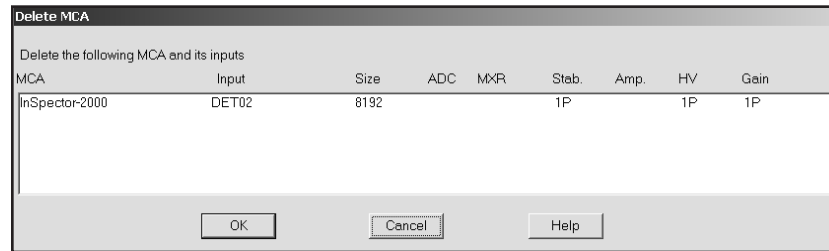

Figure 11 The Delete MCA Dialog
2. Clicking on the **Delete MCA** command in the **Edit** menu to see the Dialog Box in Figure 11. Click on **OK** to remove the entry.